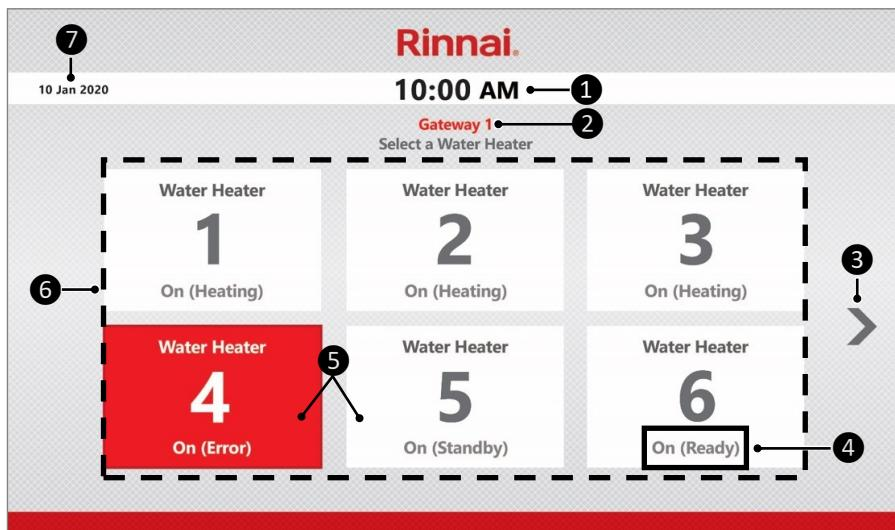
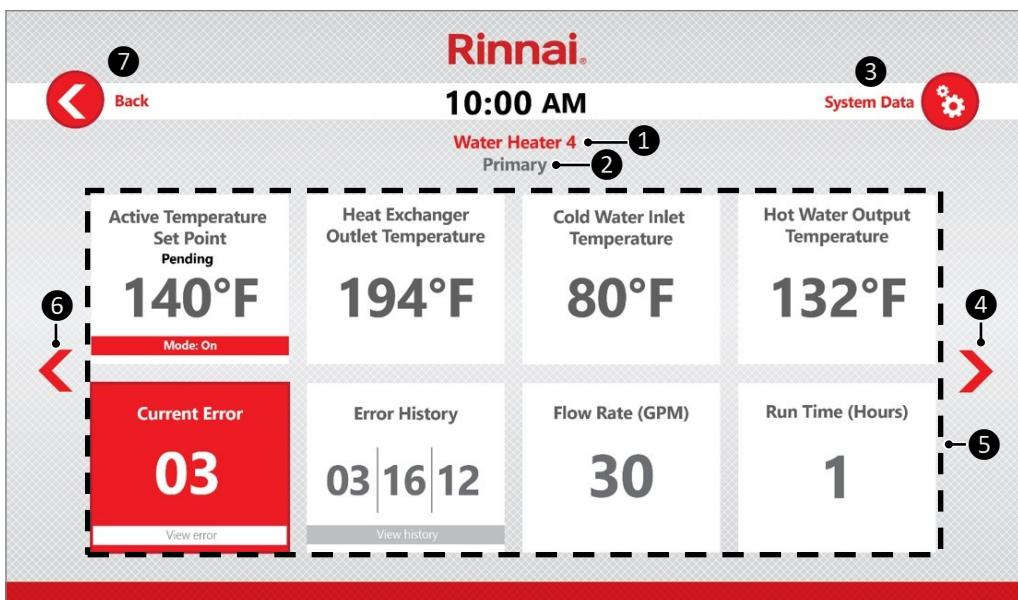

Fig 59. Main Screen
Fig 60. Tankless Water Heater Parameter Screen
Turn on the user interface by plugging the user interface power supply to a wall outlet. The main screen appears (Fig 59). The features on the screen are described in Table 17.
To view and adjust¹ the parameters of a tankless water heater, select the water heater number from the main screen (Fig 59 on previous page). The tankless water heater parameter screen appears (Fig 60). Each feature on the screen is described in Table 18.
①	Tankless water heater number currently being viewed on the screen.
②	Indicates the tankless water heater is the primary unit for cascade communication and appears only if a cascade cable is connected to the tankless water heaters.
③	Press to view advanced system data, such as the tankless water heater fan speed, combustion frequency, exhaust temperature, and more (see section "7.2.2 System Data" for more information).
④	Press to view the parameters of the next tankless water heater.
⑤	Tankless water heater parameters (see section "7.2.1 Tankless Water Heater Parameters" for more information).
⑥	Press to view the parameters of the previous tankless water heater.
⑦	Press to return to the main screen (Fig 60 on previous page).